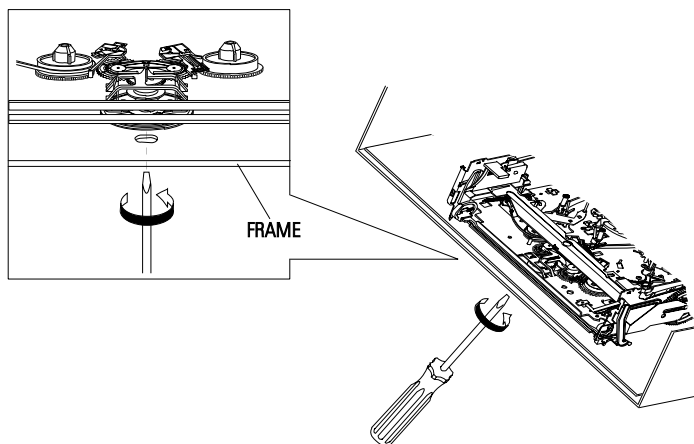

Fig. 3
- 2) When Slider S, T are approached in the position of unloading, rotate holder Clutch counterclockwise after inserting screw driver in the hole of frame's bottom in order to wind the unwinded tape. (Refer to Fig. 3)